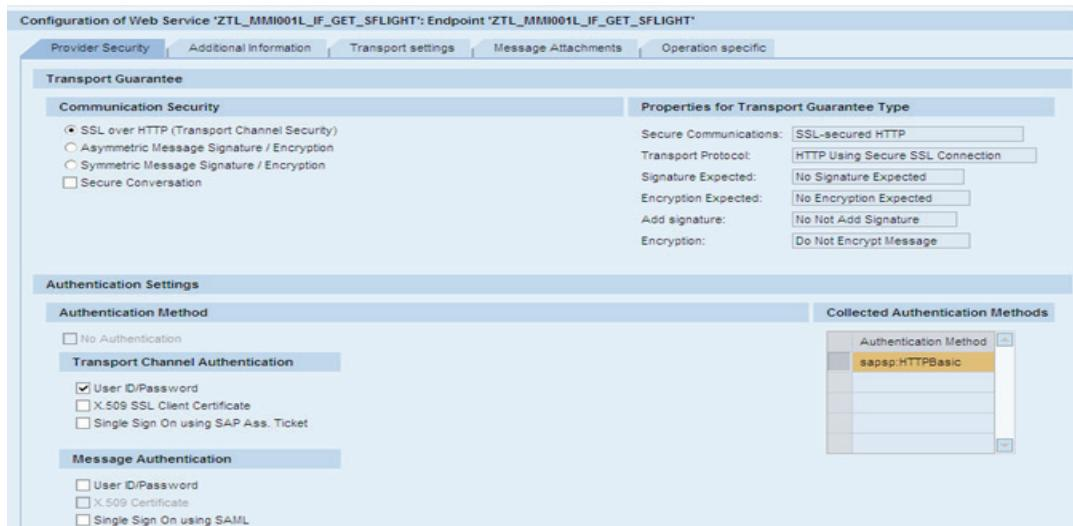

Figure 5: Provider Security Settings
- 7) Choose **Create service** and provide it an external name. The system will also ask you to choose the **security setting** for secure communication (Figure 5). Once done, save changes and move out.